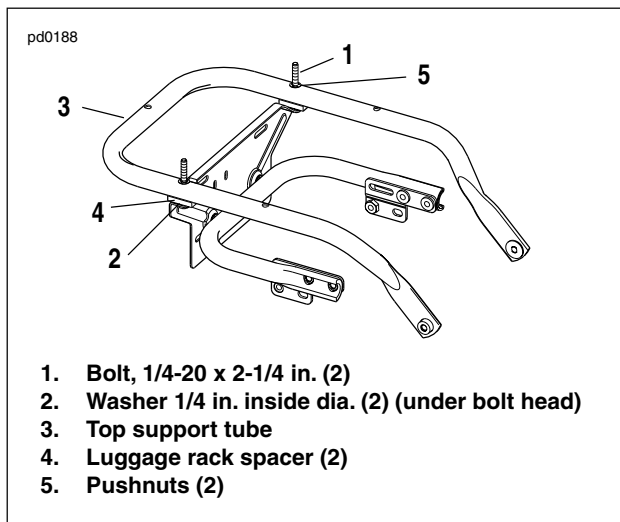

Figure 2-3. Tour-Pak Shipping Fasteners
5. See Figure 2-3. Remove and discard the pushnuts (5) from the mounting bolts (1), and pull the bolts (1) and washers (2) from the luggage rack (although the spacers (4) may be left in place between the top support tube (3) and the license plate bracket).